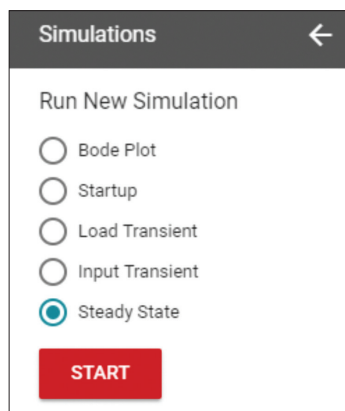

Figure 3.
- In the **'Simulations'** menu, select **Steady State** from the list of simulations as shown in **Figure 3**.